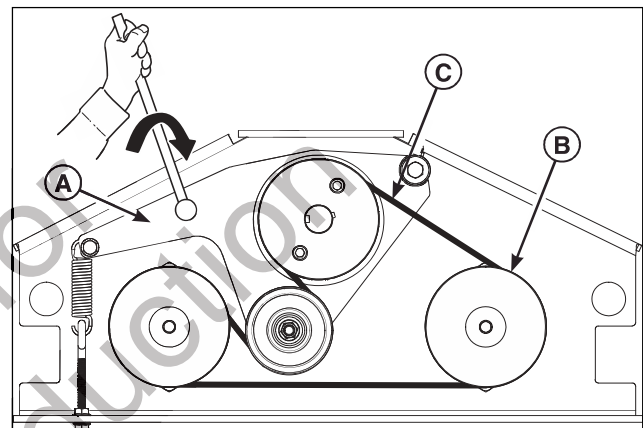
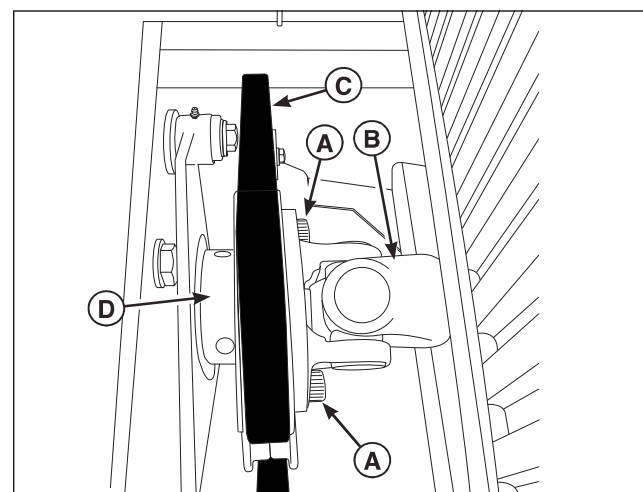

Figure 55. Removing the Tension on the Belt
Figure 56. Removing the Spindle Shaft
3. Using a 1/2" breaker bar, place the square end in the square hole located in the end of the idler arm (A, Figure 55). Carefully rotate the breaker bar CLOCKWISE, which will relieve the tension on the belt exerted from the idler arm.
4. Slide the drive belt over the edge of the right pump drive pulley (C). Carefully release the tension on the breaker bar.
5. Loosen and remove the two drive shaft collar bolts (A, Figure 56) from the drive shaft universal joint (B).
6. Pull the drive shaft universal away from the drive shaft spindle (D) and pivot out of the way.
7. Remove the old belt (E) and replace with a new one. Install the belt on the left pump drive pulley and the drive shaft spindle pulley. Make sure the V-side of the belt runs in the pulley grooves (Figure 55).
8. Using the two (2) drive shaft collar bolts (A) reinstall the drive shaft universal joint to the drive shaft spindle.
9. Install the drive belt on the idler arm pulley and check to make sure that the V-side of the belt runs in the pulley grooves. See Figure 55.
10. Carefully rotate the breaker bar CLOCKWISE and install the belt on the right pump drive pulley (B, Figure 55). Carefully release the tension on the breaker bar.